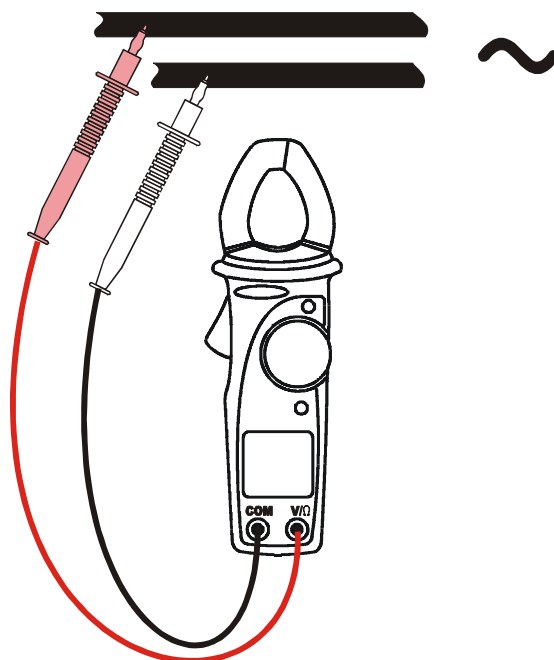

Fig. 4: Use of clamp for AC voltage measures
2. Insert the test leads into the jack, the red plug into V/Ω jack, and black plug into COM jack, like showed in Fig. 4.
4. Pressing the **R-H** key you can select manually the measurement ranges in cyclic order. Press the **R-H** key 2 seconds at least to come back to AUTOMATIC range selection.